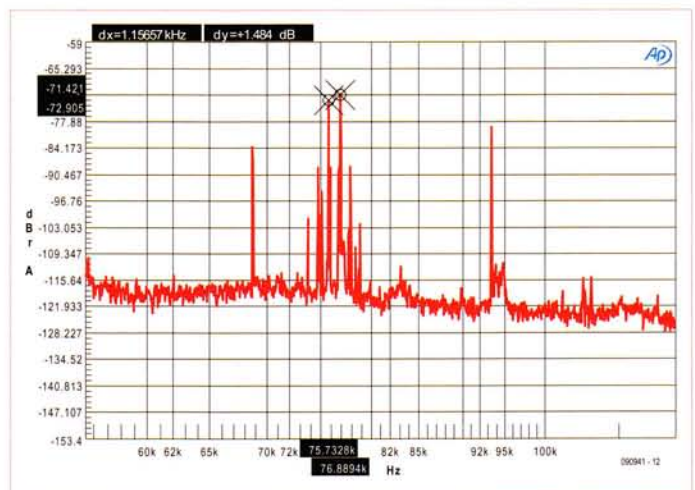

Figure 2. When we zoom in on the switching frequency we see several strange peaks from the S-60-24.
**Figure 2** shows an enlargement of part of the spectrum. From here you can see that the two series connected power supplies don't have exactly the same switching frequency. It is not quite clear what the cause is of the two more distant components at 69 and 93 kHz, but we do know that they also originate from the power supplies. Under normal circumstances most power is required at lower frequencies. It is therefore interesting to find out how hard the amplifier can be driven at 20 Hz. For the S-60 the maximum output power